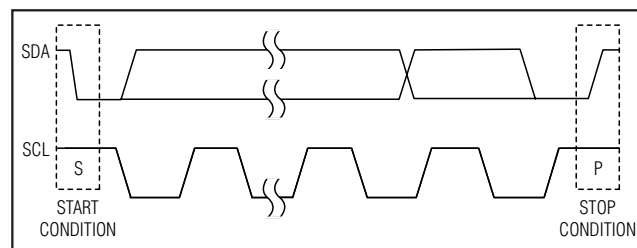
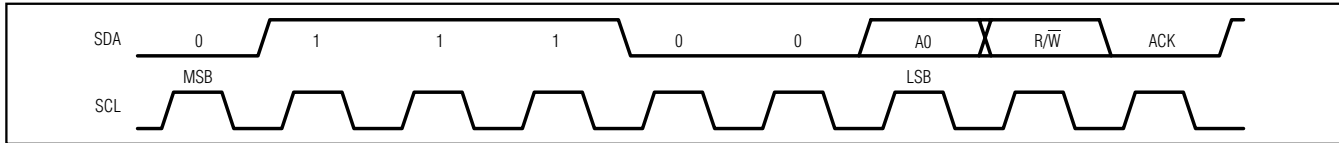

Figure 2. Start and Stop Conditions
Figure 3. Slave Address
Each transmission consists of a START condition (Figure 2) sent by a master, followed by the MAX6958/MAX6959 7-bit slave address plus R/W bit (Figure 3), 1 or more data bytes, and finally a STOP condition (Figure 2).
Both SCL and SDA remain high when the interface is not busy. A master signals the beginning of a transmission with a START (S) condition by transitioning SDA from high to low while SCL is high. When the master has finished communicating with the slave, it issues a STOP (P) condition by transitioning the SDA from low to high while SCL is high. The bus is then free for another transmission (Figure 2).
The MAX6958/MAX6959 have a 7-bit-long slave address (Figure 3). The eighth bit following the 7-bit slave address is the R/W bit. Set the R/W bit low for a write command and high for a read command.